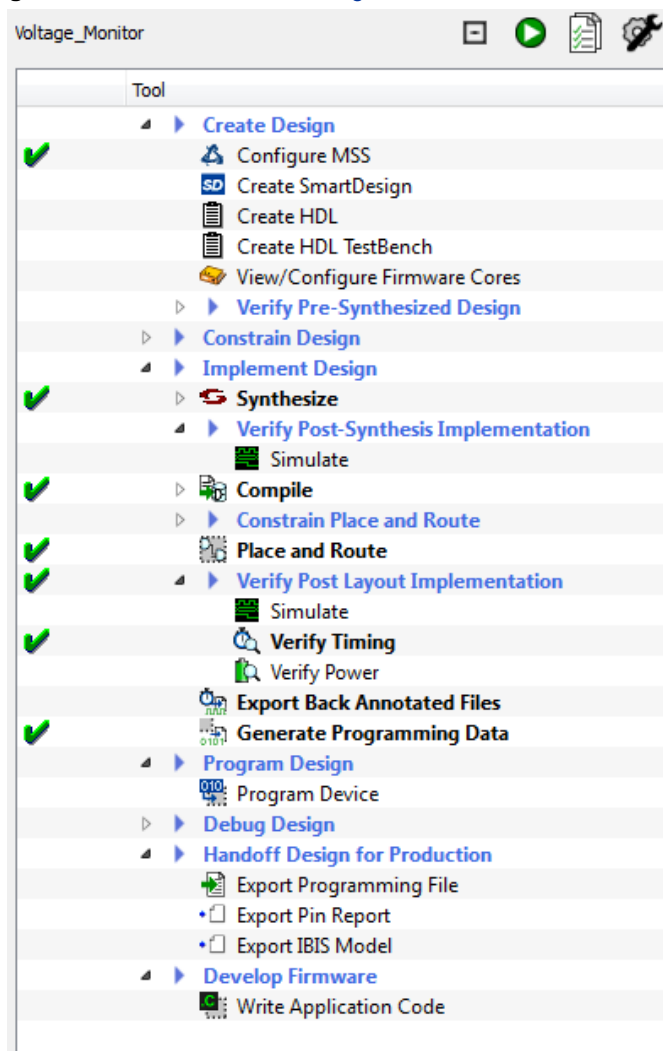

Figure 25 · Design Flow Window After Building the Project
2. The **Design Flow** window looks similar Figure 25 · .